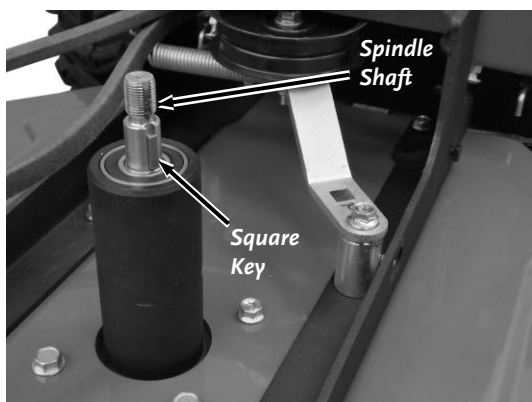

Figure 48
**Note:** Ensure that the square Key is in the Shaft (**Figure 48**) and that the Hub of the new Pulley is facing up.